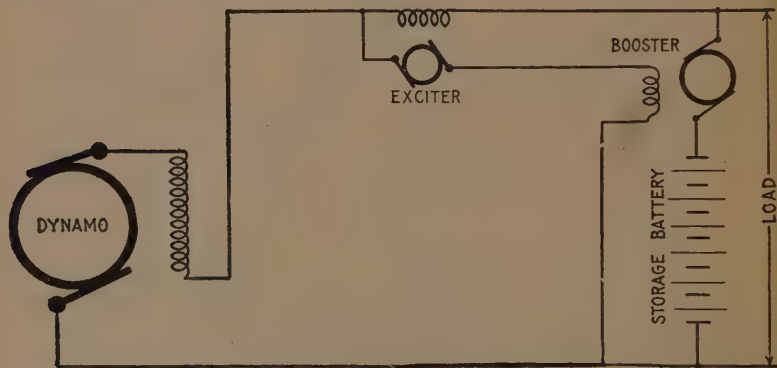

FIG. 1,203.—Hubbard's separately excited booster system (Gould Storage Battery Co.); diagram showing general arrangement.
FIG. 1,202.—Diagram of non-reversible or constant current booster system. The booster armature and field are in series between one side of the lighting and power bus bars. A shunt field is also provided, which acts in opposition to the series field. This booster carries a practically unvarying current from the lighting to the power bus bars, regardless of the fluctuations of the external load, which current is equal to the average required by the fluctuating load. Except under abnormal conditions the shunt field always predominates giving a voltage which is added to that of the lighting bus bars, so that the voltage across the power busses is always higher than that across the lighting by an amount equal to the booster voltage. If an excessive load come on the power circuits, the increased excitation of the series coil, due to a slight increase in current from the lighting to the power bus bars, lowers the booster voltage and consequently reduces the voltage across the power bus bars. The battery discharges, furnishing an amount of current equal to the difference between that required by the load and the constant current through the booster. If the power load decrease below normal, the slight decrease in current in the booster series field increases the booster armature voltage and the excess current goes into the battery. The booster, therefore, does not in reality give a constant current, but by proper design the variation may be kept within a few per cent.
The power bars are supplied with current from the lighting bars, a non-reversible or so called constant current booster being interposed between the two as shown in fig. 1,202. Since this permits only a constant current to pass from the lighting bus bars, the load on the dynamo does not vary, although the load on the power busses may vary widely.
**Separately Excited Boosters.**—In some forms of booster the field excitation is secured by a small exciting dynamo. An example of this class is shown in fig. 1,203. The exciter is provided with a single series coil, through which the station output